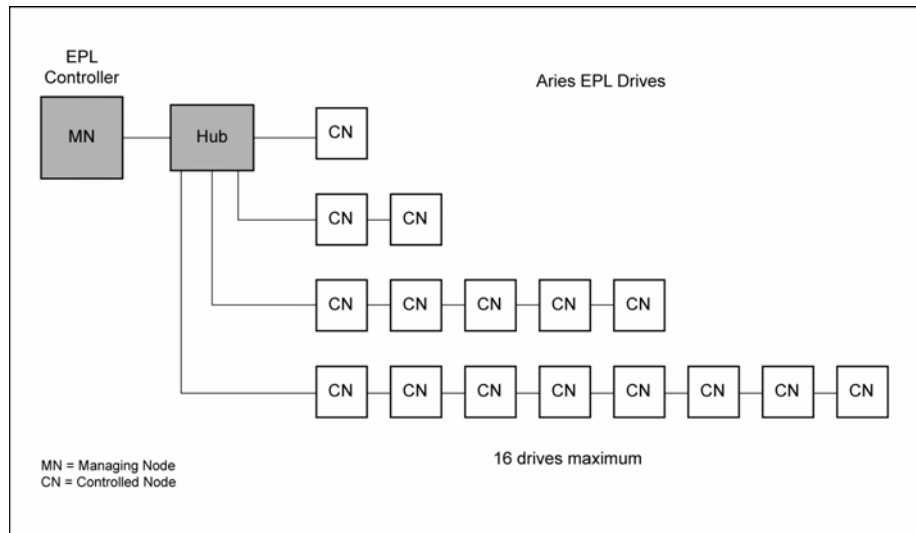

Figure 29 Multiple Drive Installation with External Hub
100Base-TX Class 2 hubs or repeaters may be used in an EPL network, but the maximum of 16 CNs per each ACR9000 EPL Controller (MN) may not be exceeded. (Class 2 defines the lowest latency and jitter standard.) Figure 29 shows an example of an EPL network installation with an external hub.